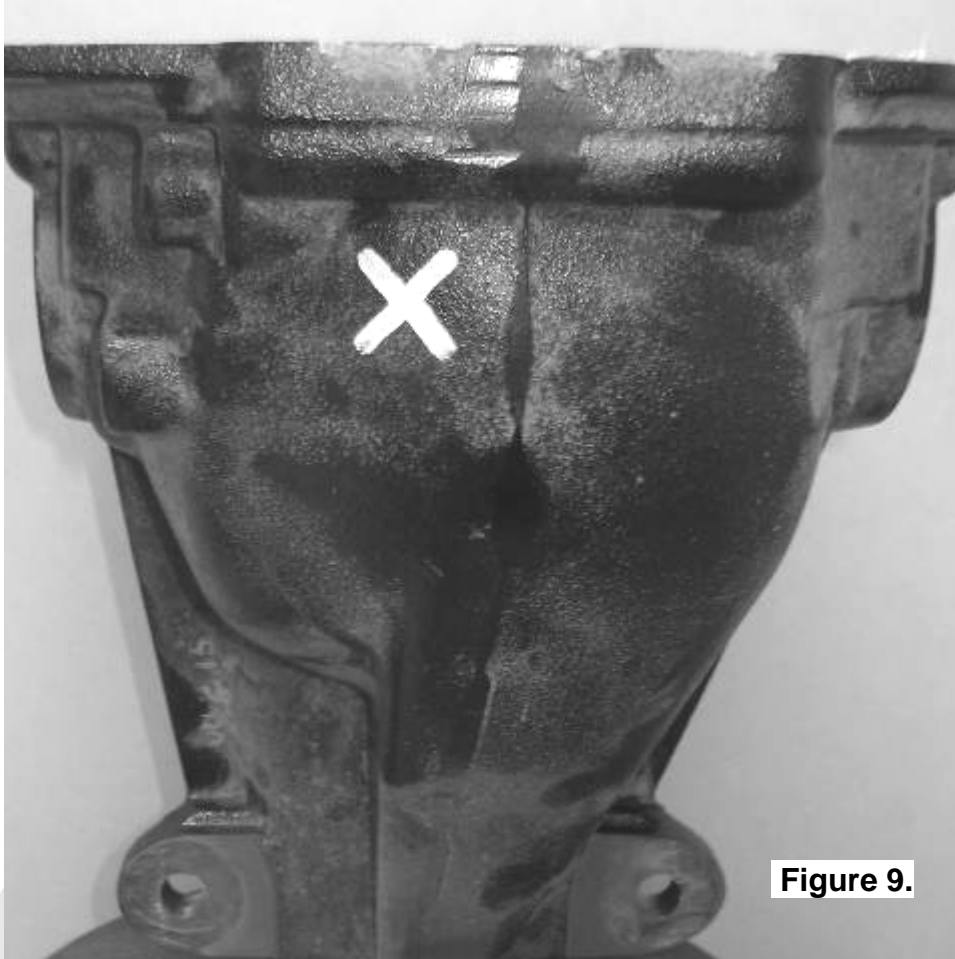

Figure 9.
- Mark a spot on the exterior of the differential housing toward the top in an area that will be well clear of the *Air Locker* body, the ring gear, and any other obstructions that could snag the seal housing tube. (Fig.9.)